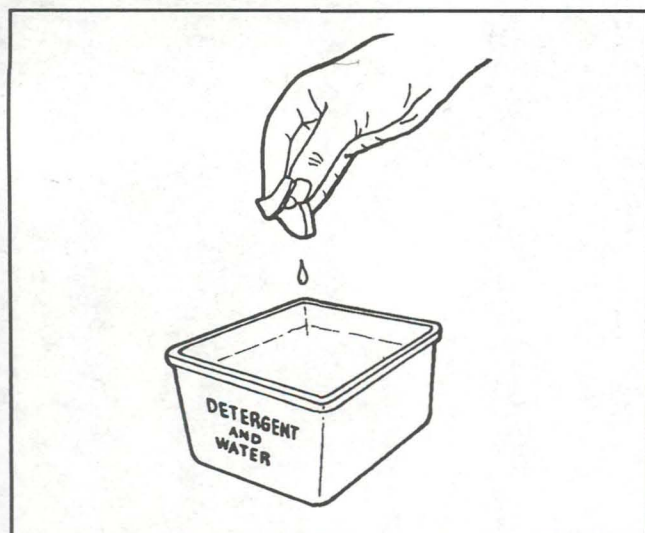

Fig. 28
2. Wash it in detergent and water (Fig. 28). Rinse the filter thoroughly and allow it to dry.